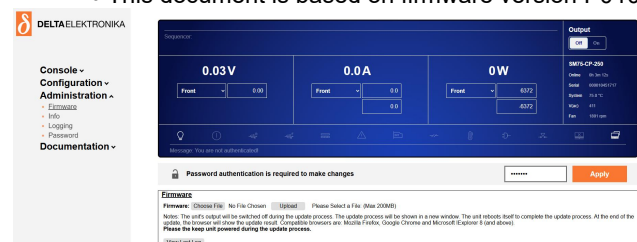

Figure 6.8: Via the web interface the downloaded firmware package can be uploaded to the unit
- At full power, the operating temperature range is -20 to +50 °C. From 50 to 60 °C the output current (either positive or negative) has to be derated linearly to 75% at 60 °C, see Figure 6.8. These temperatures hold for normal operation, i.e. the air intakes & air outlets on the left and right side must be free.